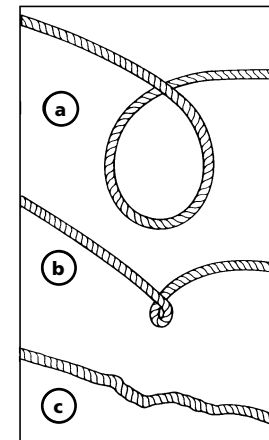

Figure 9
7. PREVENT KINKS BEFORE THEY OCCUR (See Figure 9).